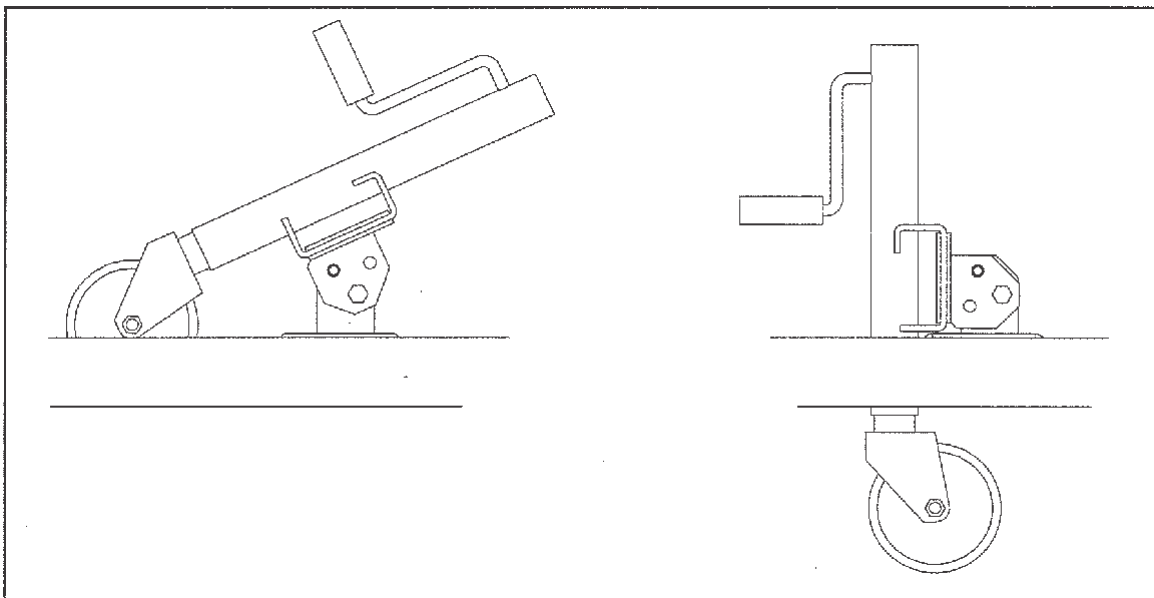

Figure 2B - Using the Jack Stand with Dolly Wheel
3. Refer to Figure 2B. Adjust the overall height of the spreader/hitch with the dolly wheel/jack so the height of the spreader hitch matches the height of the tractor drawbar or vehicle hitch point (as applicable).